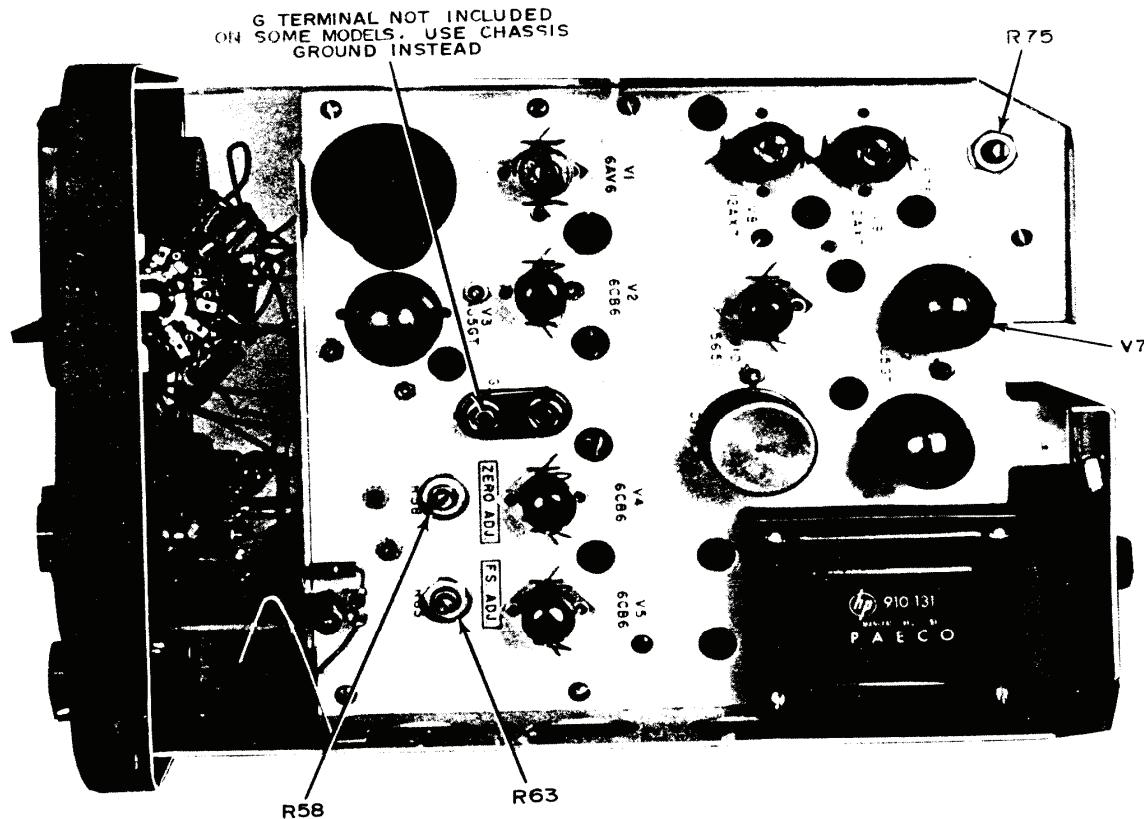

Figure 1. Test instrument - right side view.
- (1) Connect multimeter to TI G (ground) (fig. 1) and **CAL**, connectors.
- (2) Adjust **ZERO SET COURSE**, and **FINE** controls fully cw.
- (3) Advance **BOLO BIAS CURRENT (BIAS CURRENT** on TS-779/U) switch until TI meter pointer swings cw.
(1) Adjust **ZERO SET COARSE** and **FINE** controls for a 0.465 Vac indication on multimeter.
(2) Adjust R58 ZERO ADJ (fig. 1) for a 0 (zero) indication on TI meter (R).
(3) Adjust **ZERO SET COARSE** and **FINE** controls for a 0.190 Vac indication on multimeter.
(4) Adjust R63 FS ADJ (fig. 1) for a full-scale indication on TI meter (R).
- (1) Connect multimeter between pin 3 of V7 and chassis ground (fig. 1).
- (2) Adjust autotransformer output for 105, 115, and 125 Vac. If multimeter does not indicate between 247.5 and 252.5 Vdc at each output, perform **b** below.
b. Adjustments. Adjust R75 (fig. 1) for a 250 Vdc indication on multimeter (R).